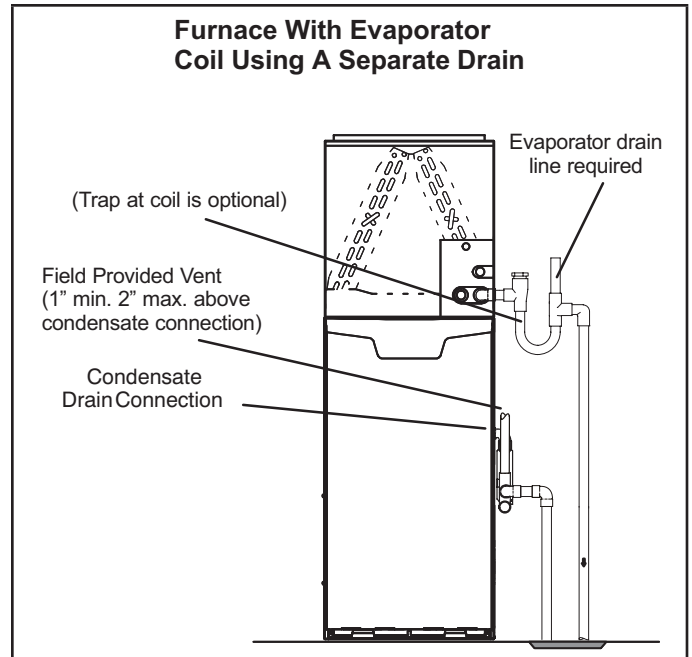
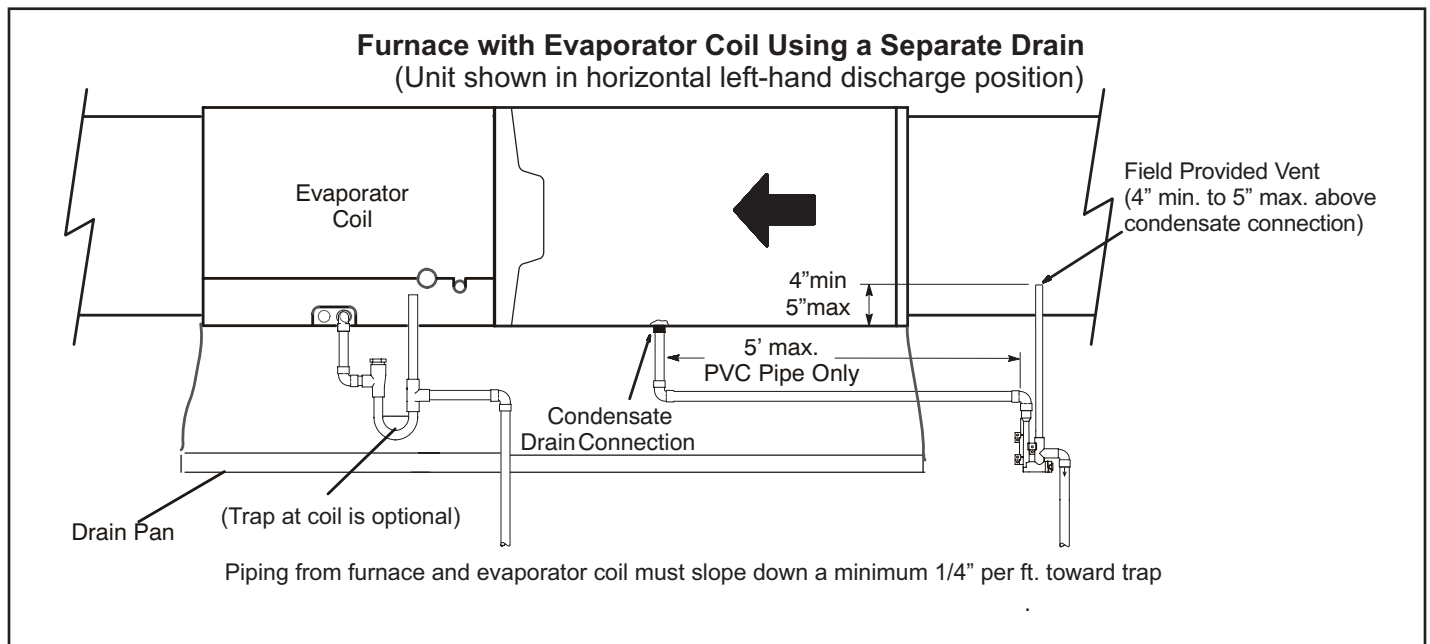
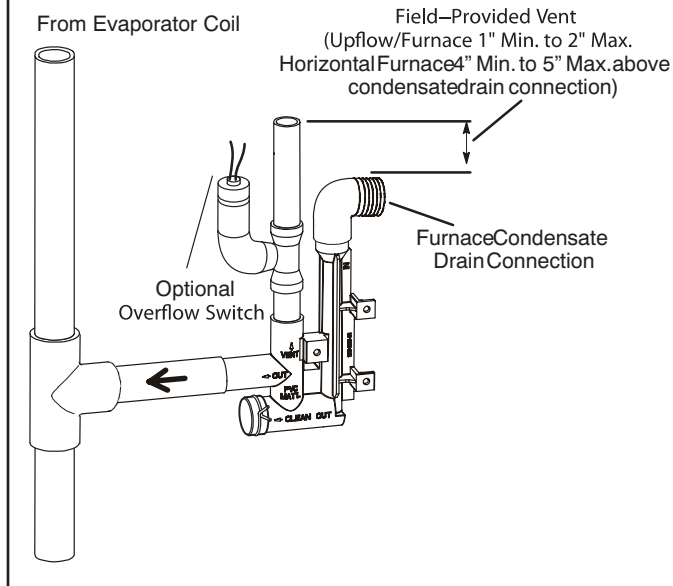
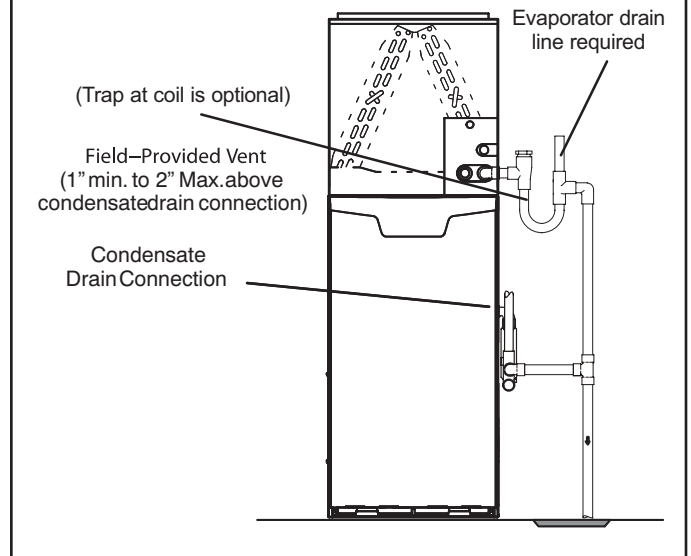

FIGURE 49
FIGURE 50
FIGURE 51
FIGURE 52
- 5 - FIGURE 49 and FIGURE 50 show the furnace and evaporator coil using a separate drain. If necessary the condensate line from the furnace and evaporator coil can drain together. See FIGURE 51, FIGURE 52 and FIGURE 53.
Upflow furnace (FIGURE 52) - In upflow furnace applications the field provided vent must be a minimum 1" to a maximum 2" length above the condensate drain outlet connection. Any length above 2" may result in a flooded heat exchanger if the combined primary drain line were to become restricted.